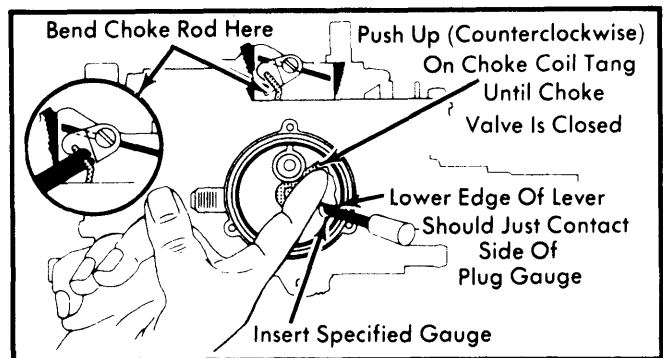

Fig. 4 Adjusting Choke Coil Lever
1) Remove 3 choke cover retaining rivets, if necessary. Remove choke cover and coil from choke housing. Place fast idle cam follower on high step of fast idle cam. See Fig. 4.